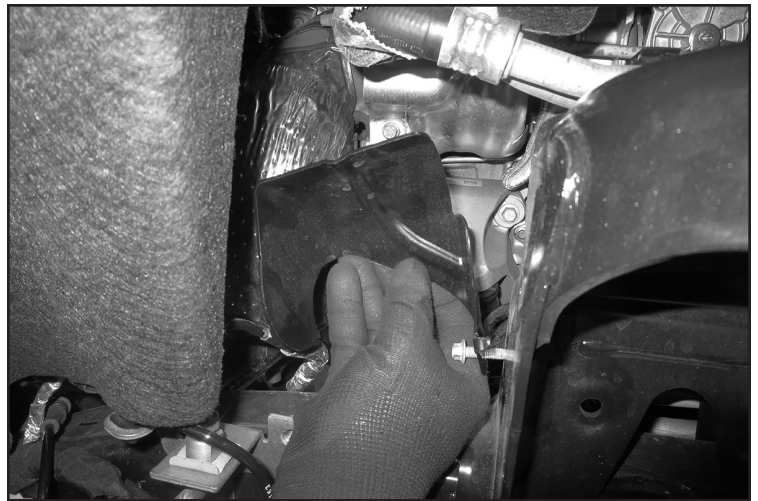

FIGURE 7 - STEP 12
- Repeat steps on the passenger side. **NOTE: The bracket on the passenger side upper strut mount will need to be removed to get the upper control arm bolt out. SEE FIGURE 7**